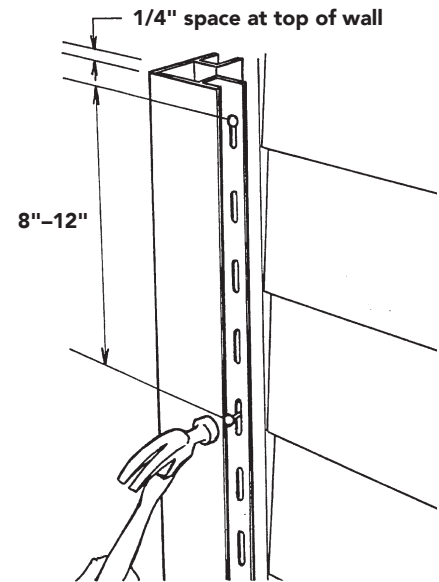

Figure 24
- Place the corner post in position, allowing a 1/4" (6.4mm) gap between the top of the post and the eave or soffit. Position a nail at the top of the upper slot on both sides of the corner post, leaving a gap of approximately 1/32" (0.8mm) between the nail heads and the corner posts. The corner post hangs from these nails. The balance of the nailing should be in the center of the slot, 8" to 12" (203mm to 305mm) apart, again leaving 1/32" (0.8mm) between the nail head and the corner post. This allows for the expansion and contraction to occur at the bottom. The corner post should extend 3/4" (19mm) below the starter strip. Make sure the posts are plumb (i.e., vertically straight) and square to the wall (Figures 24 and 25). Cut away any exposed nail hems.